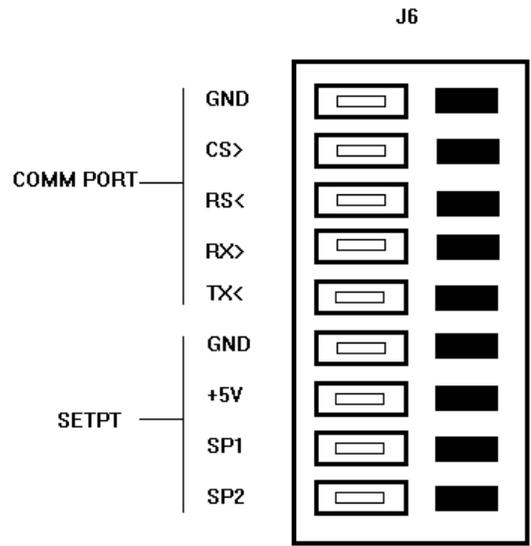

Figure 8-3 RS232 Port (J6)
6. The RS-232 ports and their functions are imprinted on the main PC board. Refer to Figure 8-3 and Table 8-1 to determine your required connections.